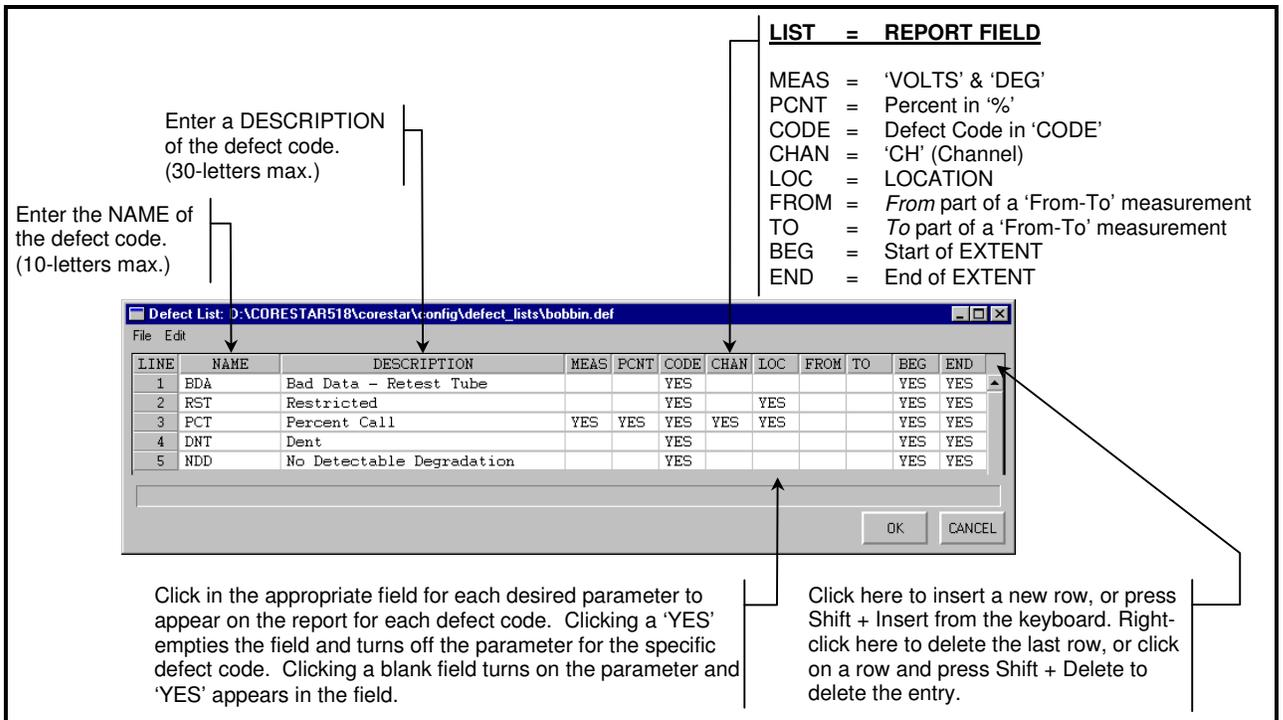

Figure 3-8. Defect List Dialog
- **Edit > Defect List ...**: Selecting the **Edit > Defect List ...** menu item causes the dialog shown in Figure 3-8 to appear.
Using this interface, user-defined defect codes may be entered and/or edited by the analyst. If a parameter is turned on (YES) for a specific defect code, that parameter will appear on the report when a call is made using that defect code. Referring to Figure 3-8, if a 'BDA' call is made, the defect code (BDA) will appear in the CODE column on CoreStar-type reports or in the '%' column of other report types, i.e., DDA-4, along with
the BEG and END (EXTENT) of test. The number of defect codes that can be entered in this dialog is unlimited. Once defect codes are entered, they never have to be entered again. To edit an existing defect code, simply type over and/or toggle the appropriate parameters. To delete a defect code entry, click the row containing the defect code of interest, and press **Shift+Delete** from the keyboard. To insert a new row, press **Shift+Insert** from the keyboard or click the gray box as indicated in Figure 3-8. The **NAME** of the defect code is limited to a maximum of 10-characters; however, the **NAME** should be restricted to the traditional 3-letter code to accommodate the space provided in most eddy current analysis report types.
Figure 3-9 shows the resulting report entries (CoreStar-type report) for each of the defect codes shown in Figure 3-8. Compare the figures and you'll see how the defect codes work based on the parameters that are enabled for each defect code in the list.